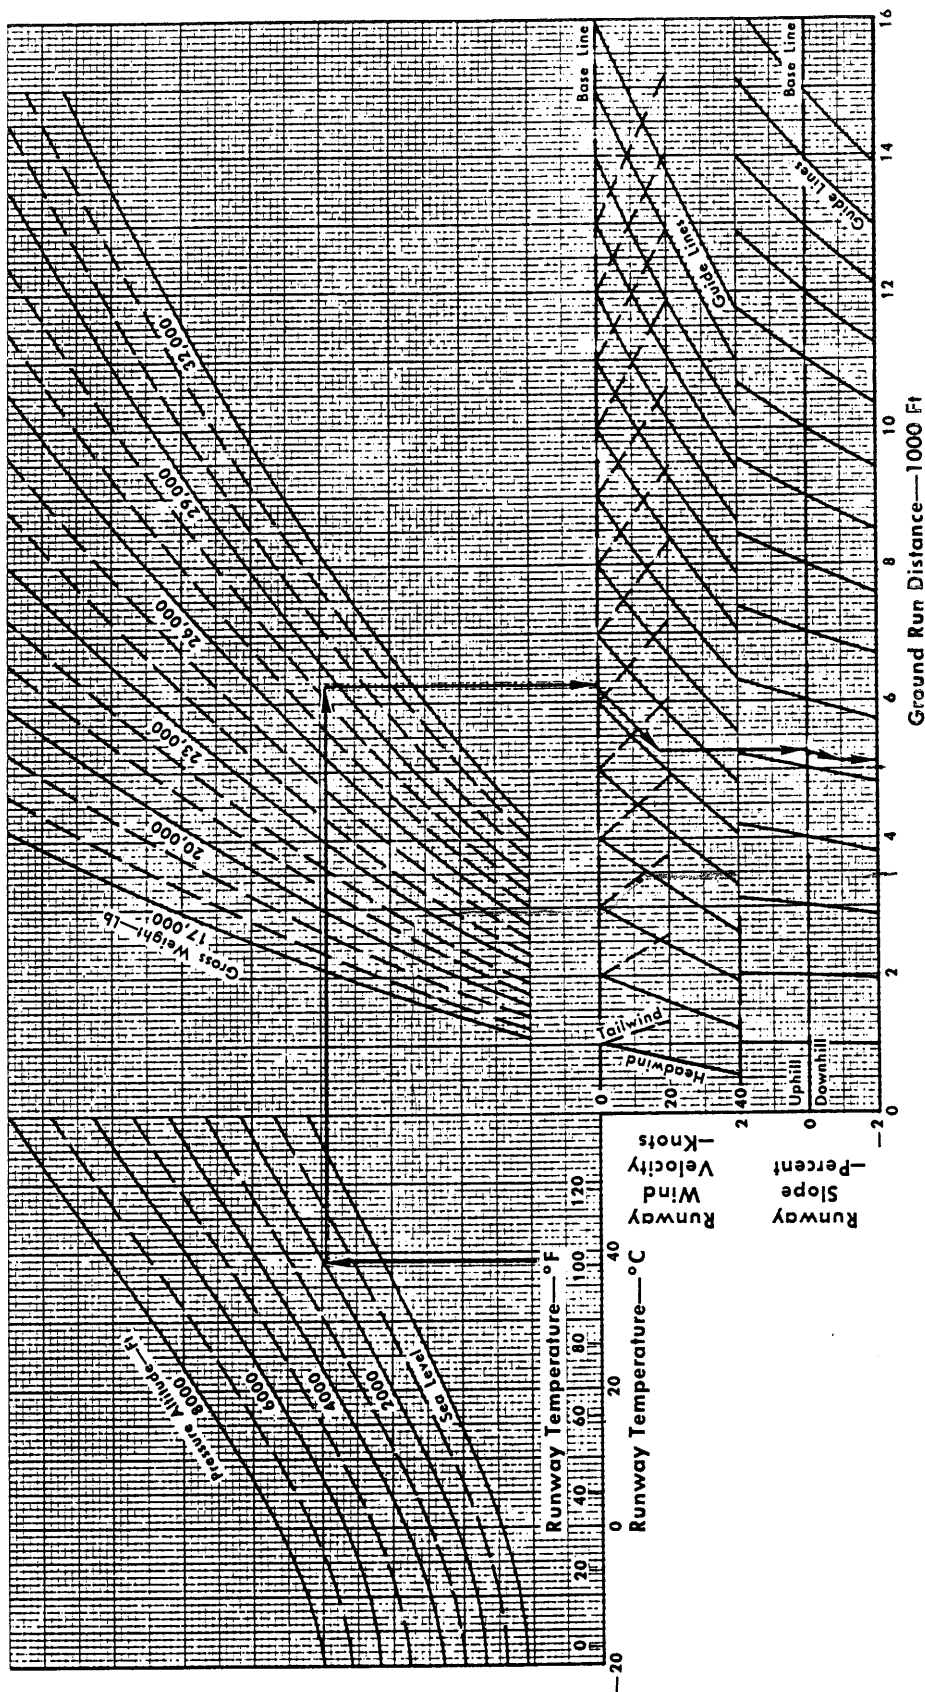

Figure A2-3
- b. From Figure A2-3 (Takeoff Ground Run Distance) the zero-wind, zero-slope ground run distance is 4700 ft. Predicted distance with wind and slope is 3850 ft.
- b. From Figure A2-3 (Takeoff Ground Run Distance) the zero-wind, zero-slope ground run distance, for use in determining the go, no-go requirements, is 6200 ft. Predicted distance with wind and slope is 5100 ft.